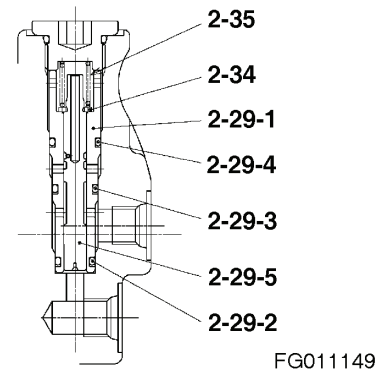

Figure 36
- B. Remove the spring (2-35, Figure 36), the washer (2-34, Figure 36) and the spool (2-29-5, Figure 36).
C. Remove the sleeve (2-29-1, Figure 36).